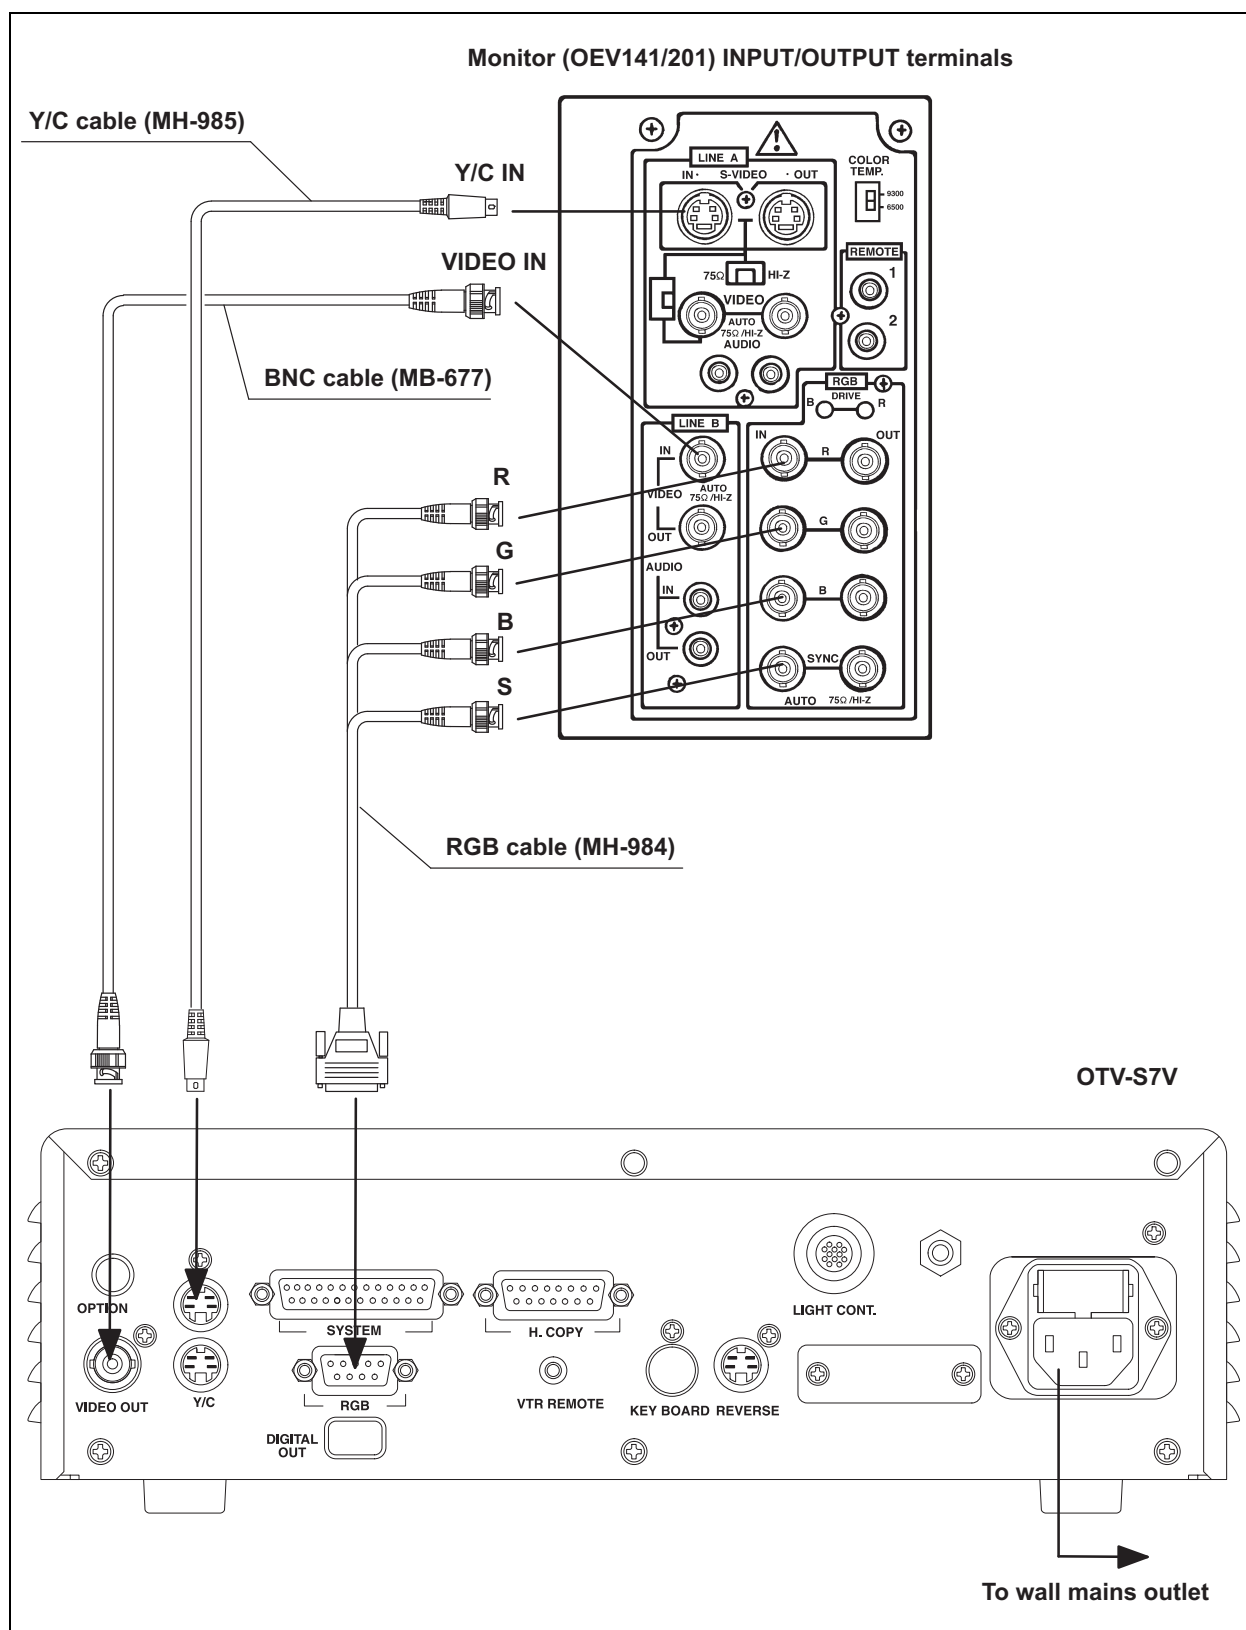

Figure 3.3
3. When using the OEV141/201, connect the Y/C cable, BNC cable or RGB cable to the video monitor as shown in Figure 3.3.